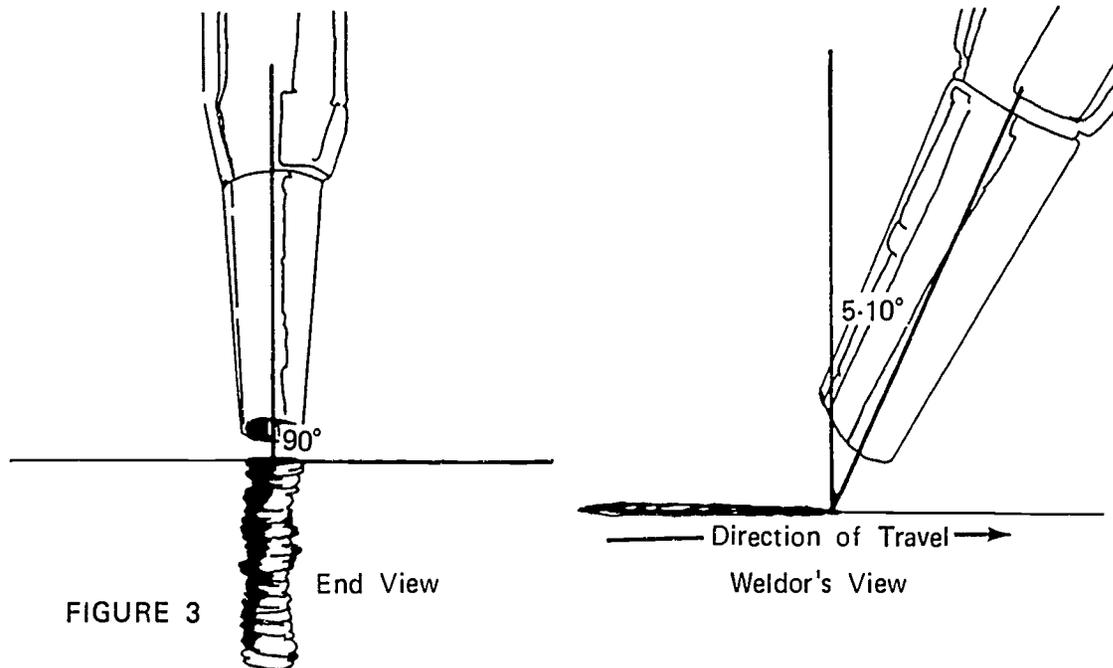

FIGURE 3
- F. Hold gun in vertical position and 5°-10° in direction of travel (Figure 3)